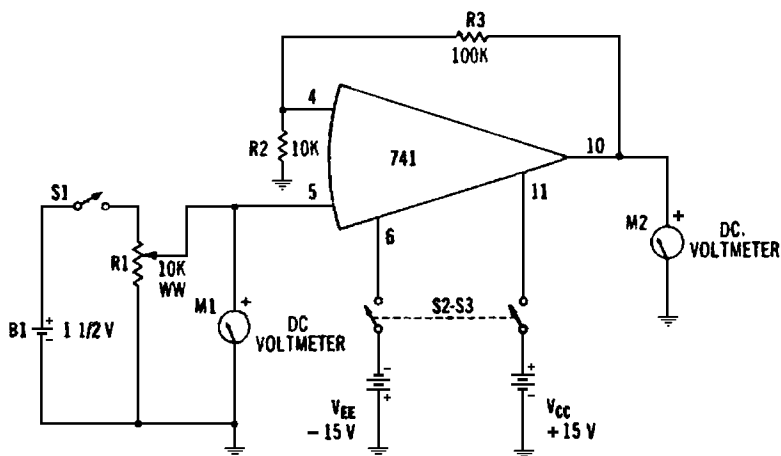

Fig. 2-12. Closed-loop dc voltage gain (noninverting).
- With switches  $S_1$  and  $S_2$ - $S_3$  open and with potentiometer  $R_1$  set to zero, set up the test circuit as shown in Fig. 2-12. Watch the meter polarity.